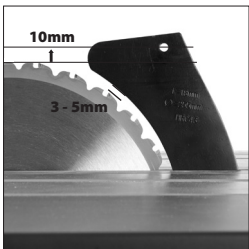

Fig. 19
- Adjust the Riving Knife so that it is between 3 – 5mm from the saw blade. The blade guard mounting hole on the riving knife should be at least 10mm higher than the tooth peak (Fig. 19).